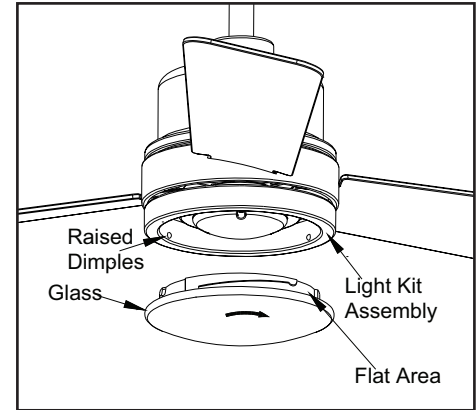

Figure 15
4. Push the light kit assembly up so that the two loosened screw heads fit into the keyhole slots. Turn the light kit assembly clockwise, tighten the screws. Reinstall the screw that was removed in step 3 and tighten firmly. (Figure 15)
5. Place the glass shade into the light kit pan, aligning the three flat areas on the top of the glass shade with the three raised dimples in the light kit pan. Turn the glass shade clockwise until it stops. (Figure 15)